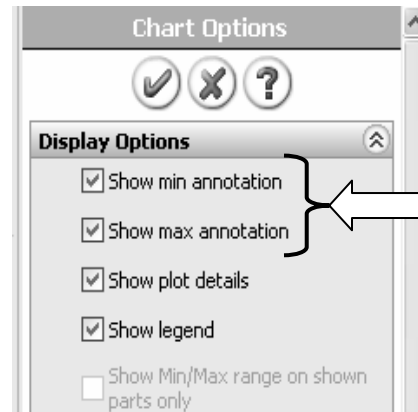

Figure 17 – Upper portion of **Chart Options** property manager showing current selections.
- Right-click **Stress1 (-vonMises-)** and from the pull-down menu select **Chart Options....** The **Chart Options** property manager opens as shown in Fig. 17.